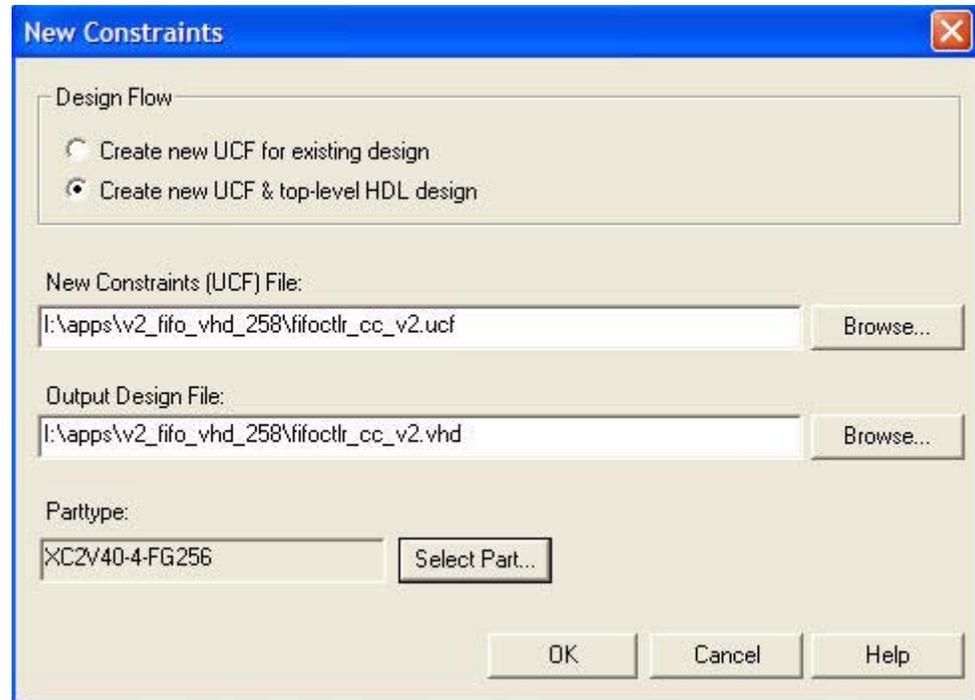

Figure 14: The New Constraints dialog box
2. Open PACE (New HDL (File -> New) file option). Figure 14 shows the New Constraints dialog box.